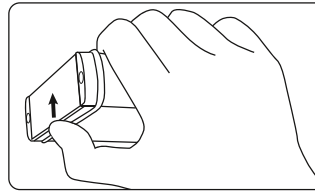

Abb. 1-1: Releasing the lock
- ☞ Press against the hinge lightly from below (see Abb. 1-1).